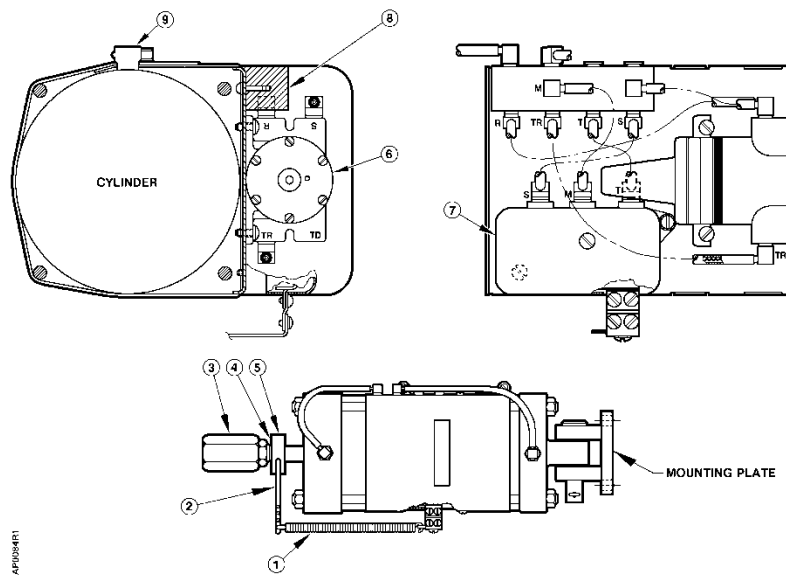

Figure 9. Piping and Call-outs.
* Item Numbers are shown in Figures 9 and 10.
** Kit 333-056 (includes items 14, 15,16).